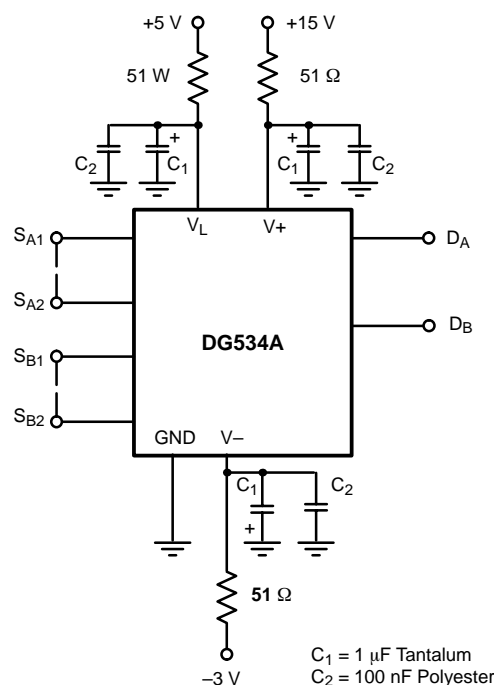

FIGURE 14. DG534A Power Supply Decoupling
- Additional high frequency protection may be provided by 51- Ω carbon film resistors connected in series with the power supply pins (see Figure 14).